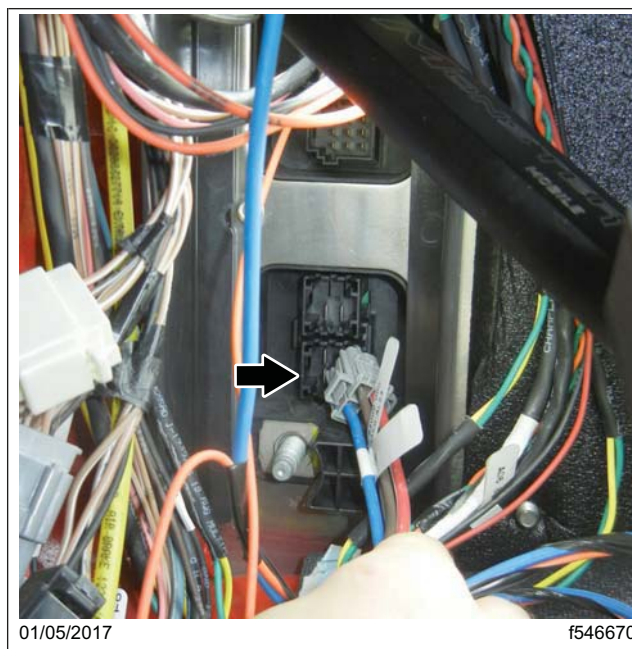

Fig. 10, Inserting the 4-Wire Connector into Slot X55 on the SAM Chassis
16. Plug the 4-wire connector on harness A06-93000-000 into slot X55 on the SAM Chassis. See Fig. 10.